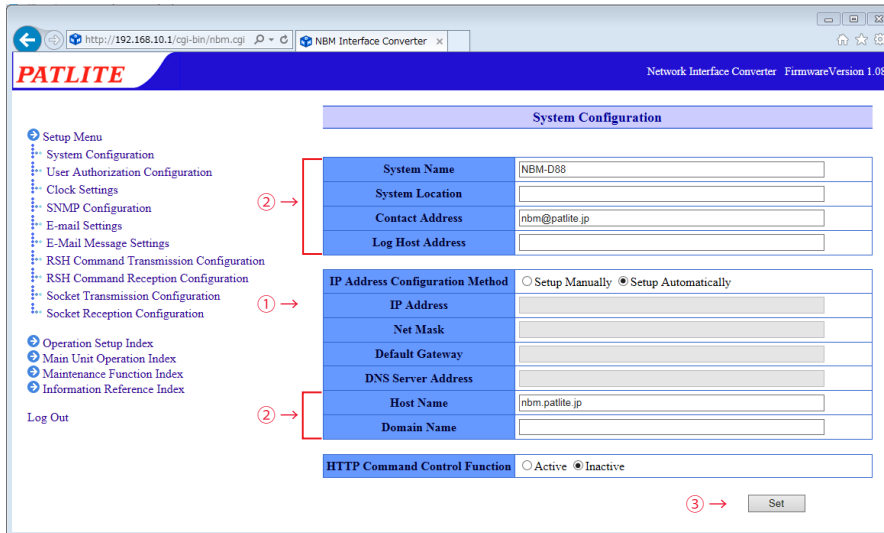

Fig. 2.7.0-1 System Setup Screen (when DHCP function is selected)
- ④ After clicking the "Set" button, click the "Network Reboot" button to reflect the setting. (Refer to Fig. 2.7.0-2)